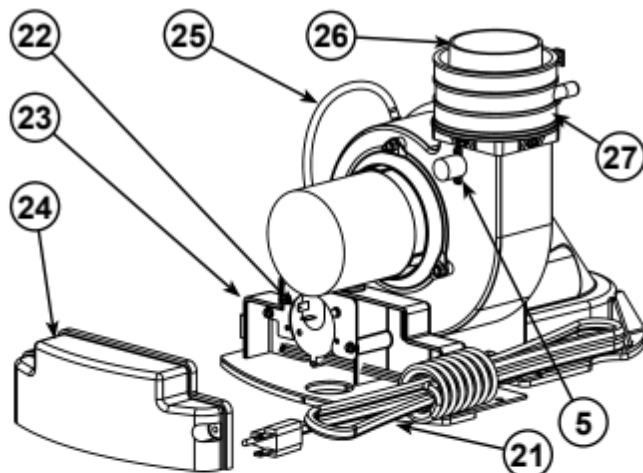

Figure 62.
- 5 Blower High Limit Switch (see Figure 6) (see also Figure 62)
- 21 Blower with Power Cord (see also Figure 6) (see also Figure 62)
- 22 Air Switch (inside box) (see Figure 6) (see also Figure 62)
- 23 Junction Box (see Figure 6) (see also Figure 62)
- 24 Junction Box Cover (see Figure 6) (see also Figure 62)
- 25 Air Tubing (see Figure 6) (see also Figure 62)
- 26 Rubber Coupling (see also Figure 6) (see also Figure 62)
- 27 Gear Clamp (see also Figure 6) (see also Figure 62)